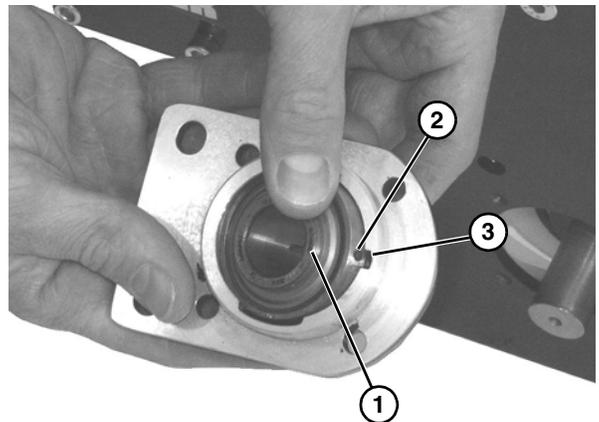

Figure 57
2. Insert bearing (**Figure 57, item 1**) into housing slot: Locate anti-rotation nub (**Figure 57, item 2**) to align with slot (**Figure 57, item 3**), and twist bearing into housing.